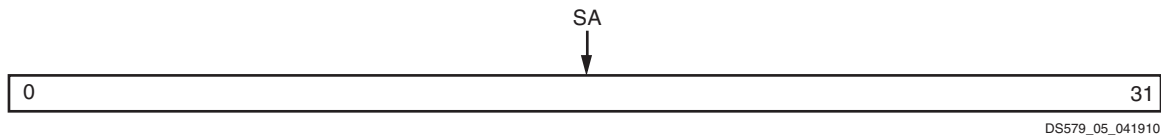

Figure 5: Destination Address Register (DA)
The Destination Address Register (DA) is shown in Figure 5. It is a read/write register addressed at an offset 0xC from base address C_BASEADDR. The bit definitions of this register are as shown in Table 9.